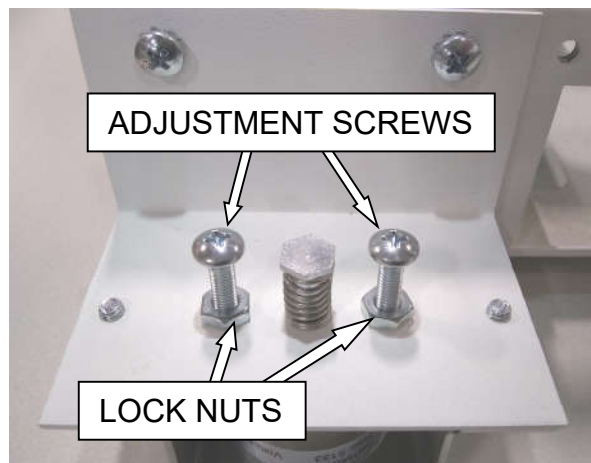

Figure 7
1. Loosen lock nuts (see Figure 7 or 8). NOTE: The lock appearance will differ based on the model of the cabinet, but the adjustment mechanism is the same.